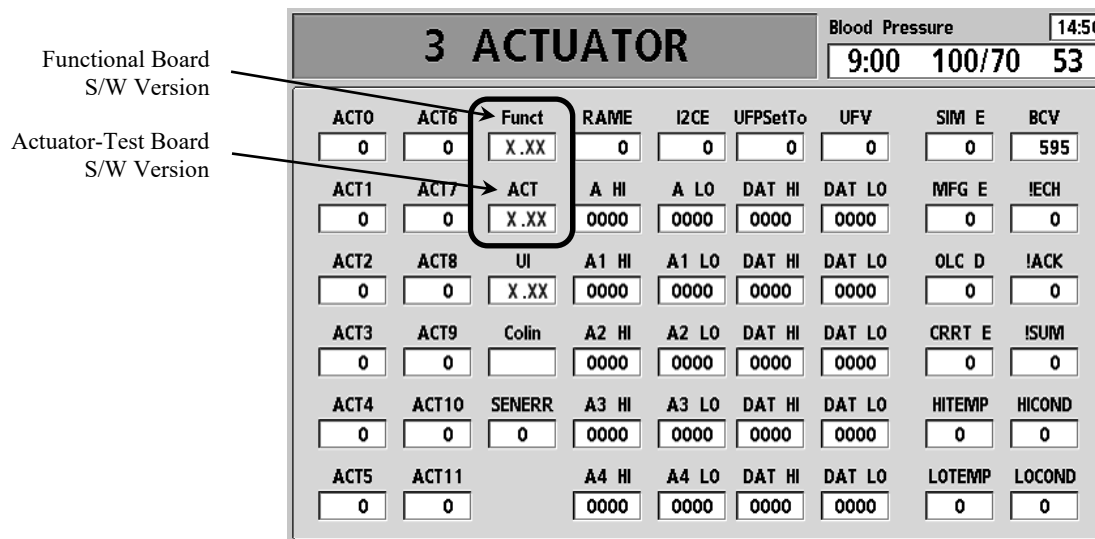

Figure 1
3. Using Figure 1 verify the Functional software version is 2.71 or greater and the Actuator-Test software version is 2.32 or greater. Press the Escape key to exit debug.